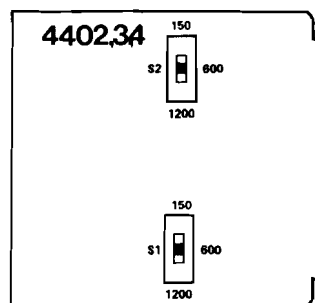

figure 2. Switch Locations
3.05 The 4401 Pad module requires no optioning. Each of the 4402, 4403 and 4404 Pad/Transformer modules incorporates two option switches. Set switch S1 to the desired setting (150, 600 or 1200 ohms) to provide impedance matching in the receive channel. Set switch S2 to the desired setting (150, 600 or 1200 ohms) to provide impedance matching in the transmit channel. Switches and position labels are located on the Pad/Transformer module as shown in figure 2.